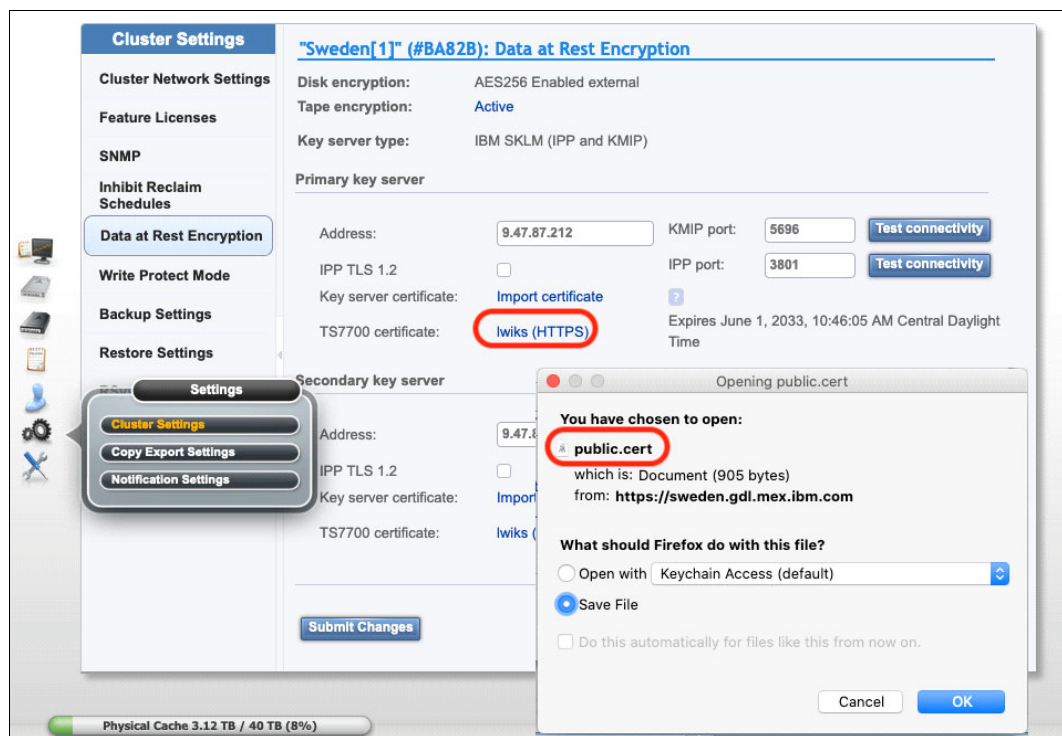

Figure J-11 Downloading the TS7700 HTTPS certificate
2. Click the **lwiks (HTTPS)** hyperlink to download the LWIKS certificate, as shown in Figure J-11. This hyperlink is visible for the following instances only:
If you obtained the TS7700 certificate by using the method that is described in “Downloading a copy of the LWIKS certificate” on page 1028 (see Figure J-11 on page 1029), the downloaded LWIKS public certificate features a *.cert extension. However, IBM Security Guardium Key Lifecycle Manager can upload certificates with the *.cer extension only.